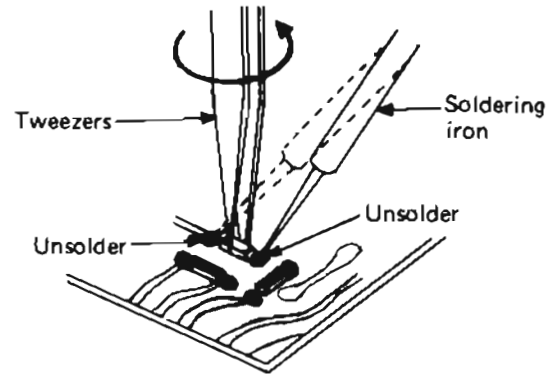

Fig. 12
2. Remove chip with tweezers by rotating it while removing solder as shown in fig. 12.